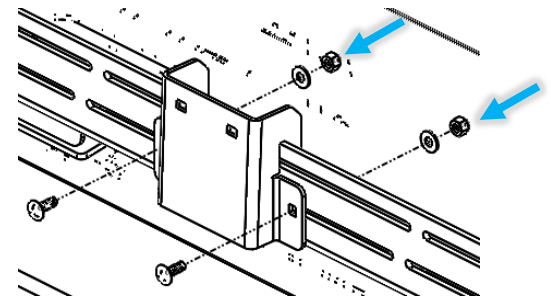

Figure 4: Awning Bracket Hardware Installation
3. Once the correct spacing along the side of the vehicle has been determined, install the provided carriage bolts through the awning bracket and the side rail of the roof rack (Figure 4). Fasten with the accompanying washer and nylon-locking nuts. The hardware can be installed in either direction.